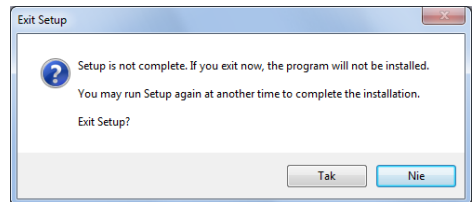

Fig. 39 – request for confirmation of aborting the installation before it is complete
- Installation can be aborted in any moment by clicking the **Cancel** button in the bottom right corner of the dialog box, but in such case program will not be installed. This is why the program will ask if the user really intend to abort the installation (Fig. 39);